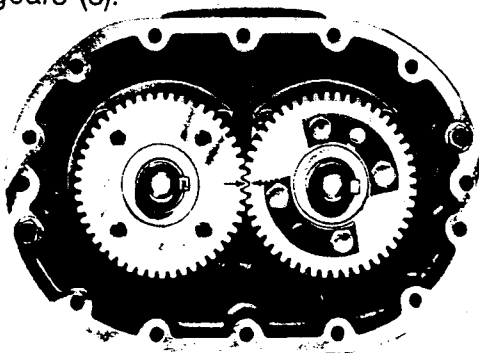

FIGURE 5A
1. Insure that all oil is drained from unit and remove port fittings (38).
2. Remove cap screws (26) from gear end cover.
3. Remove gear end cover (6) using beveled chisel and hammer; unless jack screw holes have been provided.
4. Remove snap ring (47) from drive shaft.
5. Using gear pullers, remove drive shaft bearing (50).
6. Remove drive shaft (45).
7. Remove gear locknuts (35) and locks (36).
8. Align timing marks, see Fig. 5A on timing gears (8).